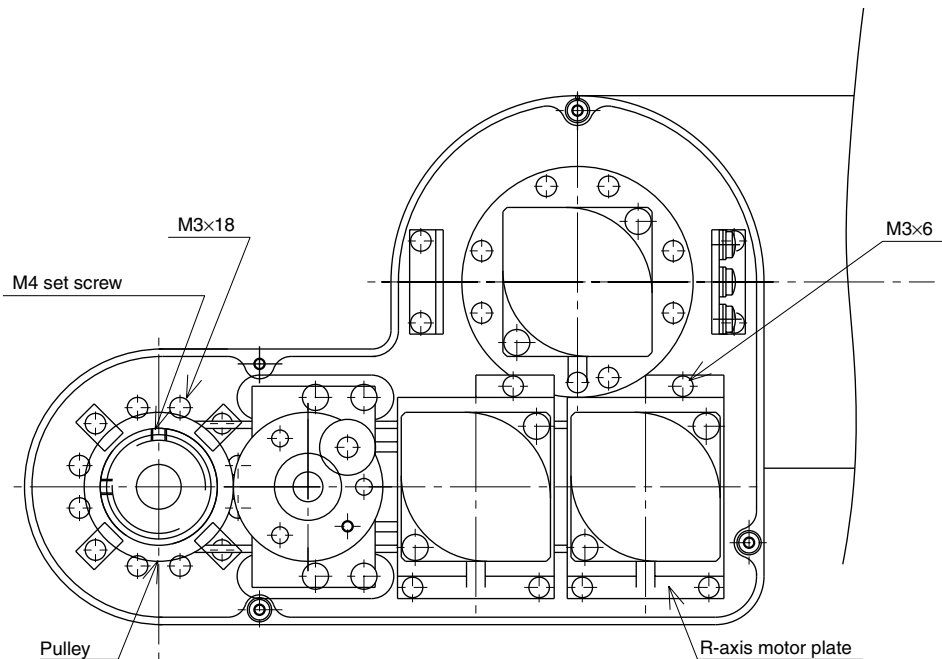

Fig. 5-15
- 9) Remove the bolts (M3×6L, 3 pieces) securing the R-axis motor plate at the top of the Y-axis arm. (See Fig. 5-15.)
- 10) Loosen the pulley set screw (M4, 2 pieces) and remove the pulley from the wave generator. (See Fig. 5-15.)
- 11) Remove the harmonic drive installation bolts (M3×18L, 8 pieces) and pull out the harmonic drive from the bottom of the Y-axis arm. (See Fig. 5-15.)
- 20) Check that the timing belt is fitted on the wave generator pulley and motor pulley, and then secure the motor plate. (See Fig. 5-15.)